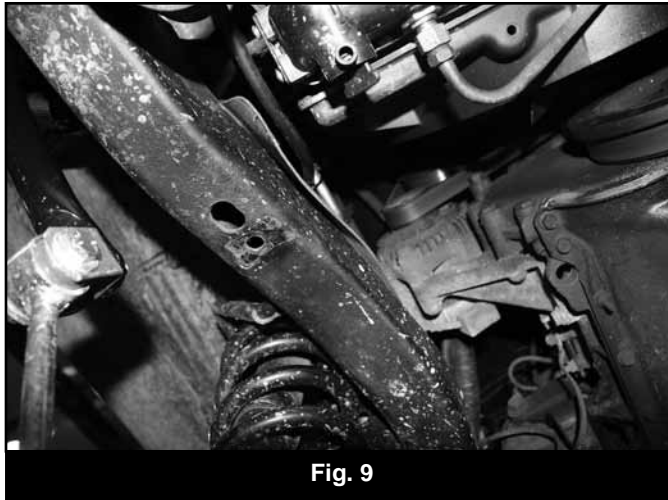

Fig. 9
18. With the support tube loosely attached to the track bar bracket on the driver's side, swing it up to the bottom of the passenger's frame rail. Position the end of the tube so that the hole is approximately 5/8" behind the back edge of the existing hole in the frame. Using the hole in the tube as a guide, mark the hole location to be drilled. This hole location will match up with an existing hole in the top of the frame. Lower the tube and drill a 1/2" hole at the mark (Fig 9).